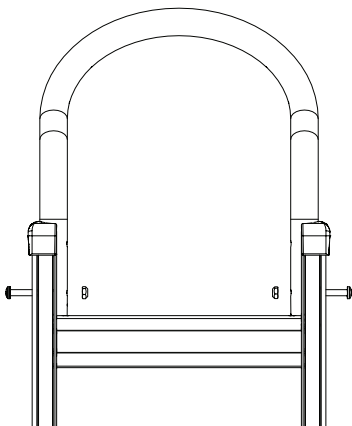

Figure 1
- Assemble upper wings to each side (see Figures 1 and 2).